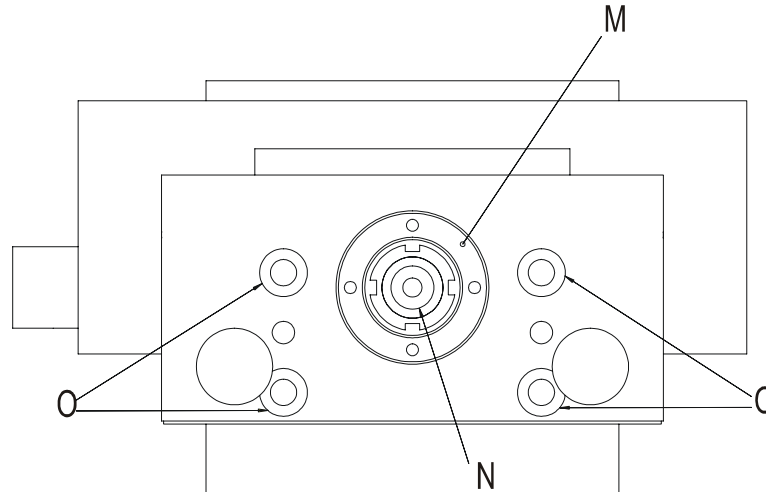

Figure 29: spindle bearing on the end plate side
- Remove the nut screw (**N**) and threaded ring (**M**) (*Figure 29*) (mounting hole on the end plate side in the spindle for locking).
- Remove the end plates by undoing the four fastening screws (*Figure 29, O*)
- Tighten the end plate on the spindle with the nut screw (*Figure 29, N*) (mounting hole on the end plate side in the spindle for locking).
- Tighten the nut screw (*Figure 29, N*) and secure it with locking compound.
- Remove the nut screw (*Figure 29, N*) and stopping ring (*Figure 29, M*) (mounting hole on the end plate side in the spindle for locking).
- Tighten the end plate onto the spindle with the nut screw (*Figure 29, N*) (mounting hole on the end plate side in the spindle for locking).
- Remove the nut screw (Figure 29, N) (mounting hole on the end plate side in the spindle for locking).
- Push the carriage back. Pull the spindle back into the end plate by fastening the countersunk screw (Figure 29, N) (mounting hole on the end plate side in the spindle for locking).
- Remove the nut screw (*Figure 29, N*) (mounting hole on the end plate side in the spindle for locking).
- Remove the end plate by undoing the four fastening screws (*Figure 29, O*)
- Mount the end plate onto the spindle with the countersunk screw (*Figure 29, N*) (mounting hole on the end plate side in the spindle for locking).
- Securely screw the end plate into position. Tighten the countersunk screw and secure with locking compound (see *Figure 29, page 36*)-